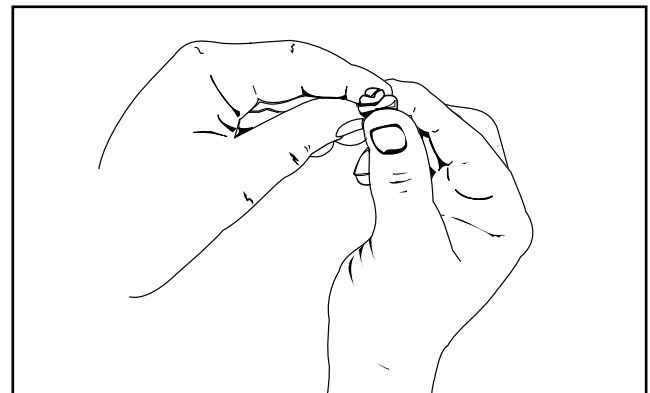

Fig. 39
5. Squeeze the filter to spread the oil (Fig. 39).